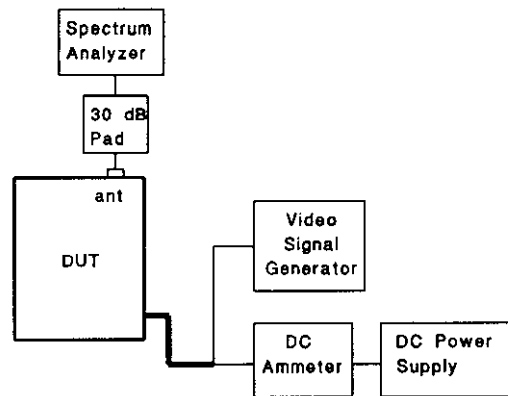

Figure 2
16.	Set up the test equipment as shown in figure 2.